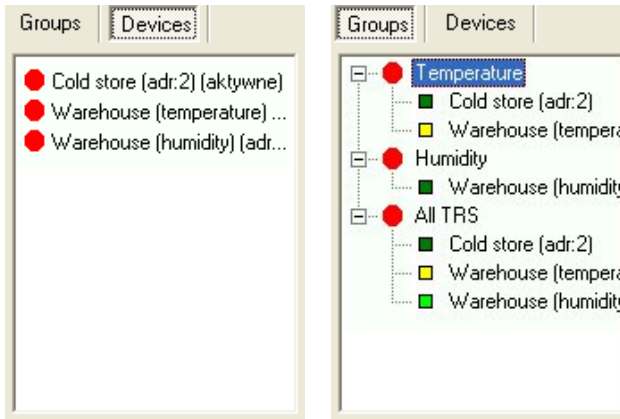

Figure 4.7. Single devices and Group of devices selection tabs.
- click appropriate tab **Groups** or **Devices** (Figure 4.7),